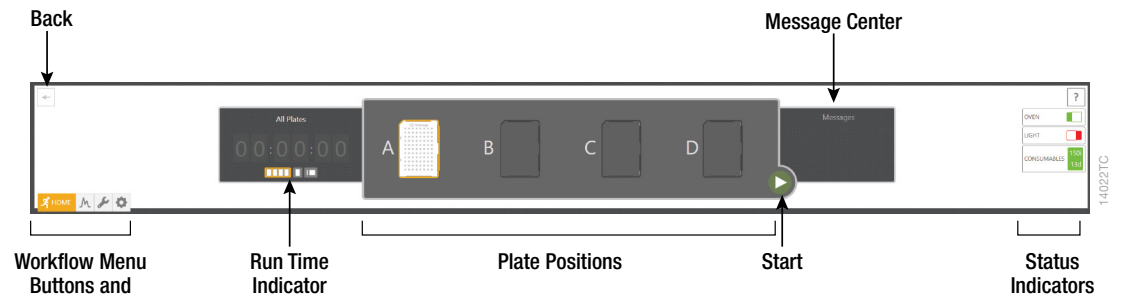
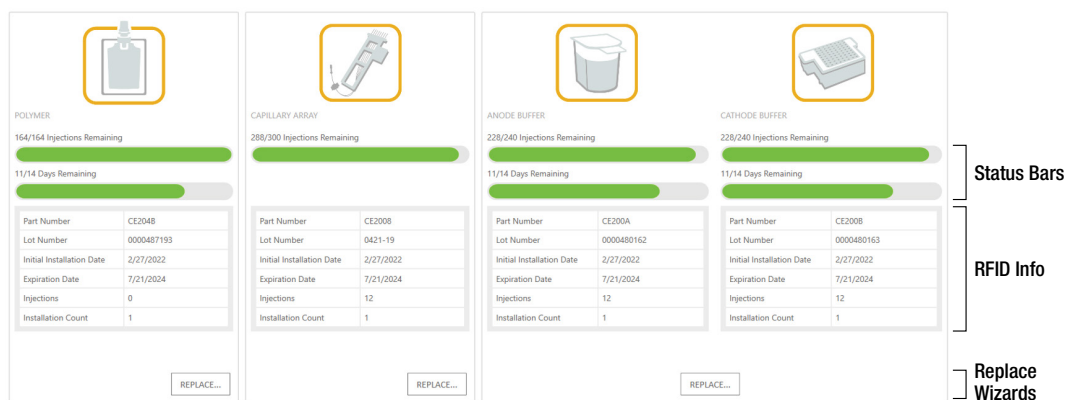

Figure 2. Header.
Figure 3. 'Consumables' screen.
The Header (Figure 2) is fixed and remains available to the user throughout all navigation processes. This area contains Status Indicators, Message Center, Start Button, Run Time Indicator and Workflow Menu. The header also shows the status of the plate positions within the Plate Drawer.
Before starting a run, ensure all consumables are installed and in sufficient supply. For best results, use unexpired reagents that are within the recommended use range. Refer to the 'Consumables' screen (Figure 3) to determine if any consumables need to be replaced. To access the 'Consumables' screen, select the **Consumables** status indicator in the header on the SCS screen (Figure 2). The 'Consumables' screen (Figure 3) displays information for the four RFID-tagged consumables on the instrument: Polymer, Capillary Array and Anode and Cathode Buffers.
Select the **Oven Heater Indicator** in the header (Figure 2) to start preheating the oven to 60°C. The oven temperature will be displayed in the status bar at the bottom of the screen and the indicator will change from red to green when the oven preheating is complete.
3. Confirm the drawer handle light is illuminated, indicating that the drawer is unlocked and ready for plate loading. Alternatively, check the Message Center to verify that the drawer is unlocked. The Drawer Status indicator is in the Message Center located in the header (Figure 2).